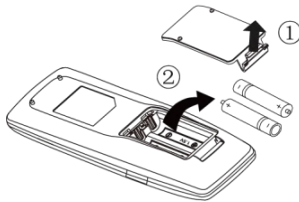

Fig.1
- (1). Lift the cover along the direction of arrow (as shown in Fig 1①).
- (2). Take out the original batteries (as shown in Fig 1②).